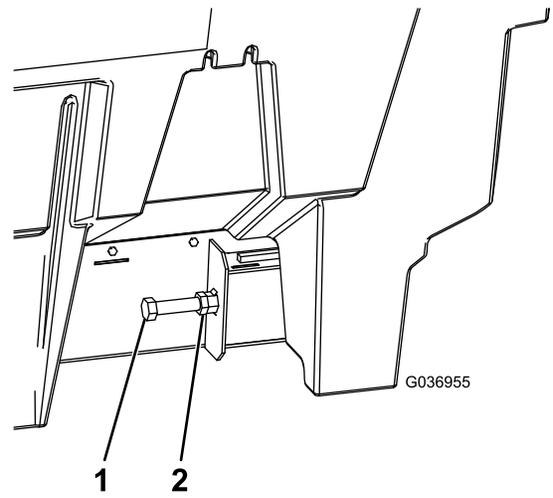

**Figure 25**
3. Check the gap between the pintle chain and the cleanout tray (Figure 25).